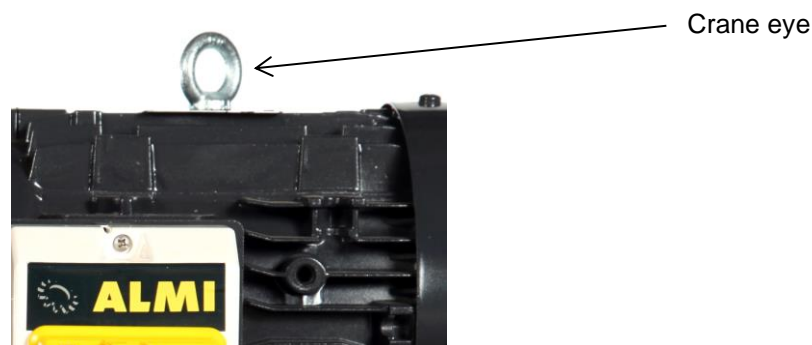

Figure 5.2-1: Position of crane eye
- Remove the pipe notcher from the packaging with a cable attached to the crane eye. See Figure 5.2-1.
For vertical lifting with a hoist, a hoisting strap must be installed as shown in Figure 5.2-1.